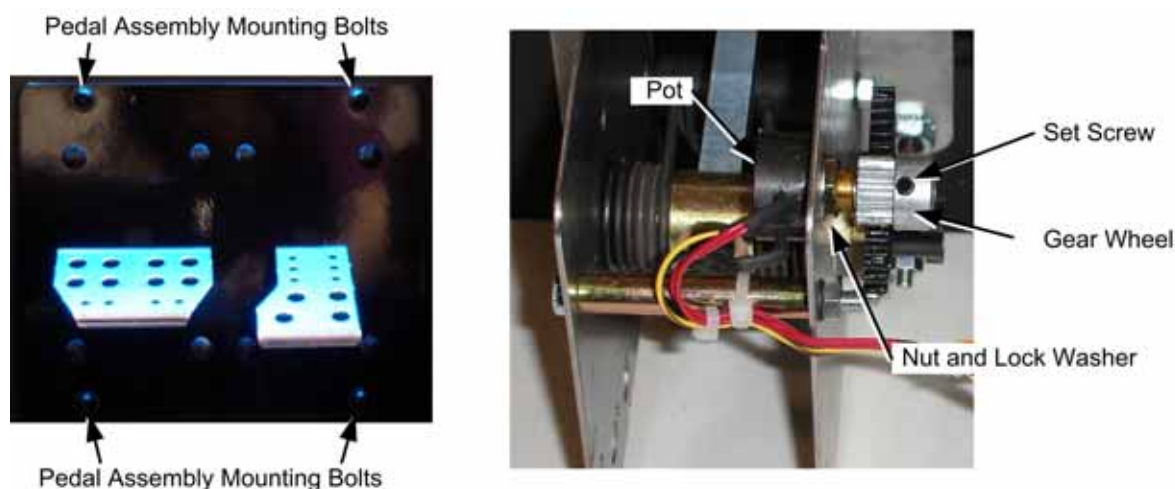

Figure 23. Pedal Assembly Details
To replace a pot, refer to Figure 23 and perform the following steps:
2. Using a 7/64 Allen wrench, loosen the set screw from the gear wheel and remove the gear wheel, as shown in Figure 23.